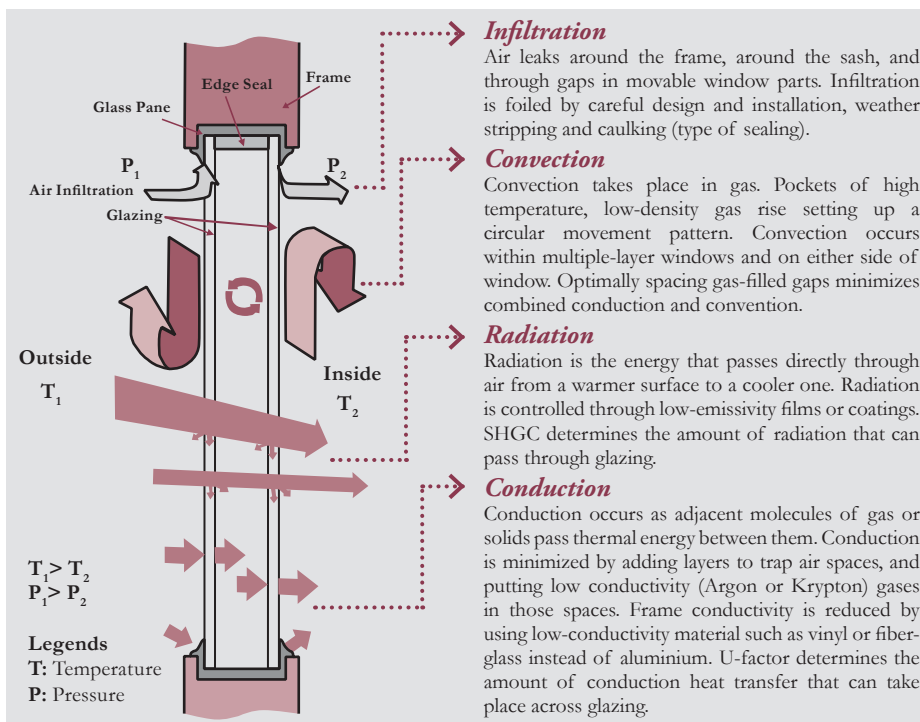

Fig. 8: Heat and Air Movement through Double Glazing Window System
- Infiltration & exfiltration, the unwanted air movement through windows and envelope surfaces, is caused by a pressure difference (air moves from high pressure to a lower pressure- Fig. 8). Limiting air infiltration and exfiltration is key to